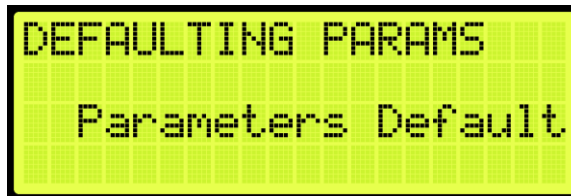

Figure 477: DEFAULTING PARAMS Menu – Parameters Defaulted
- When the system has completed defaulting all parameters, the DEFAULTING PARAMS menu displays Parameters Defaulted (See Figure 477).
6. When the system has completed defaulting all parameters, the DEFAULTING PARAMS menu displays Parameters Defaulted (See Figure 477).